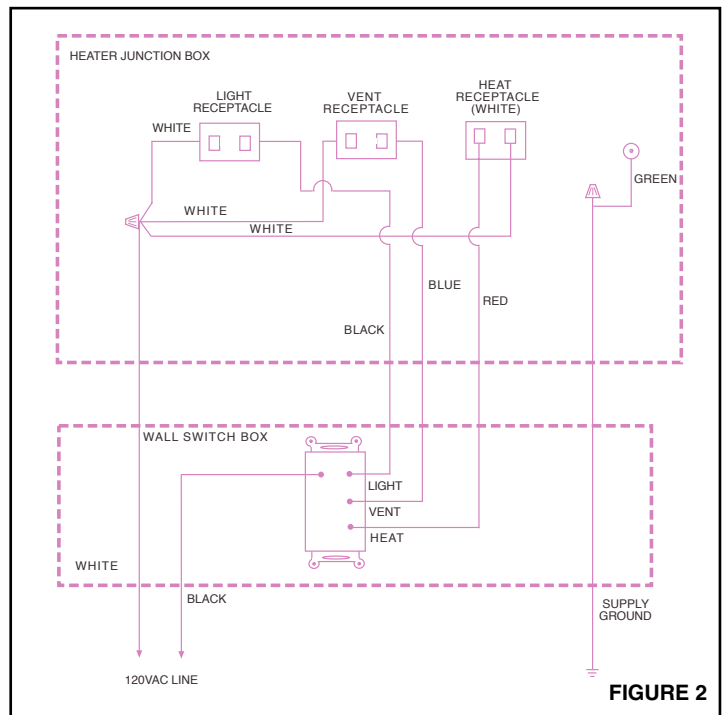

FIGURE 2
3. **Refer to fig. 2.** Connect white wires in junction box to white (neutral) supply wire. Connect the blue wire in the junction box to the supply wire from the vent switch. Connect the black wire to the supply wire from the light switch. Connect the red wire in the junction box to the supply wire from the heat switch. Connect green ground lead in the junction box to the supply ground.